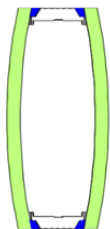

Figure IG18-2:
Changes in ambient temperatures will cause the glass to have a positive bow (Figure IG18-2) or negative bow (Figure IG18-3). A positive bow occurs when the airspace temperature of the insulating glass (IG) unit becomes warmer than the IG fabrication temperature. A negative bow occurs when the airspace temperature of the IG unit becomes colder than the fabrication temperature.
Changes in elevation from where the IG unit was originally fabricated will create a positive or negative bow in the glass. If an IG unit is installed at a higher altitude, the glass tends to bow outward (Figure IG18-2) in the shape of a positive curved lens. If the IG unit is installed at a lower altitude, the glass tends to bow inward (Figure IG18-3) like a concave lens. Both negative and positive bows may create an optical distortion in reflection. Installation of a capillary tube may reduce this effect from occurring.
Changes in barometric pressure will also cause the glass to deflect negative or positive. An increase or decrease in barometric pressure, from when the IG unit was originally fabricated, will cause the glass to have a positive bow (Figure IG18-2) or negative bow (Figure IG18-3) respectively.